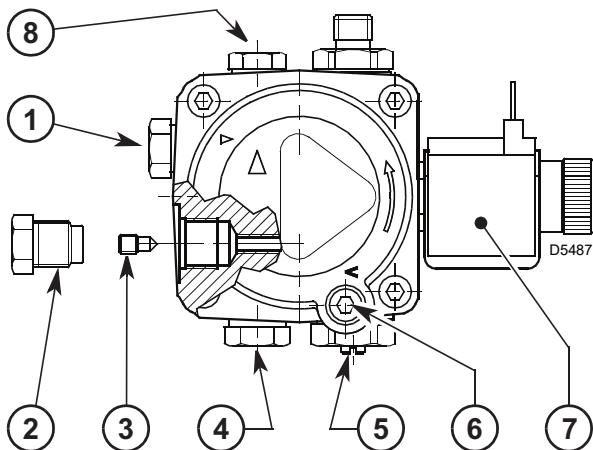
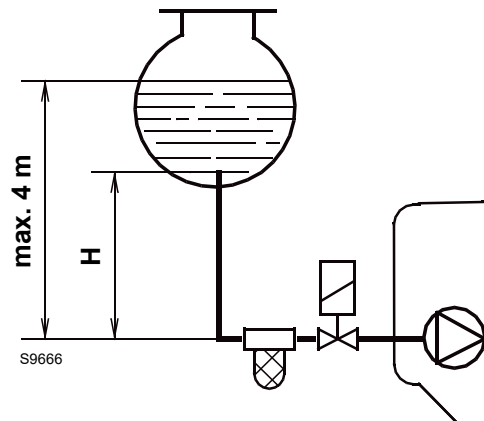

Fig. 16
Fig. 17
Depending on whether the pipe outlet is to the right or left of the burner, it will be necessary to invert both the fixing plate 1) and the closing bracket 2)(Fig. 17).
The suction line plug 1)(Fig. 16) is made of plastic. Once removed, it must not be used again.
The pump has a delivery pressure regulation device 4)(Fig. 16). Pressure increases if turned in a clockwise direction, and decreases if turned in the other direction. An indication of sensitivity is 1 bar per turn.
- If necessary, recalibrate the pressure using the screw 5)(Fig. 16).
Pressurised one-pipe systems (Fig. 17) have a positive fuel pressure on intake to the burner.
In order to obtain one pipe working it is necessary to unscrew the return line plug 2)(Fig. 16), remove the by-pass screw 3)(Fig. 16) and then screw the plug 2)(Fig. 16) in again with a tightening torque of 0.5 Nm.
In the system in Fig. 17, the table shows the maximum approximate lengths for the supply line, depending on the difference in level, the length and the diameter of the fuel conduit.
In the system of Fig. 17 just loosen the connection of the vacuumeter 6)(Fig. 16) and wait for the fuel to come out.